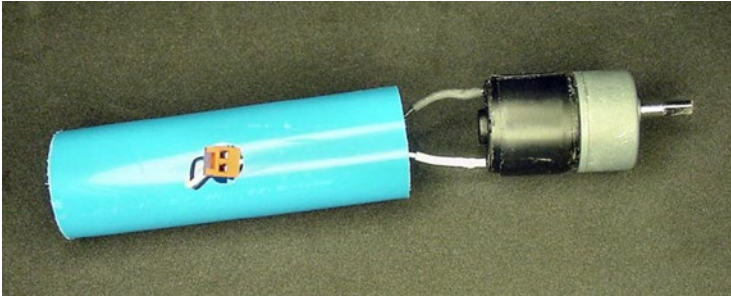

Figure 24-20. Motor's Molex connector emerging from hole in middle of tube
1. Feed the Molex connector of the 39 cm taped motor through the smaller end of the tube and out the center hole (see Figure 24-20).